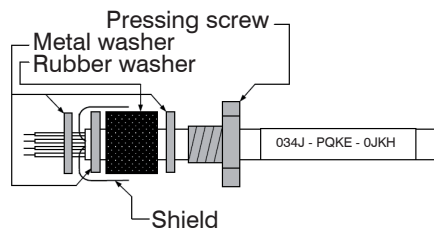

Fig. 9 Cable Assembling
- ➡ Place the pressing screw, the rubber washer and the metal washers of the cable gland one after the other onto the prepared cable end, see Fig. 9.